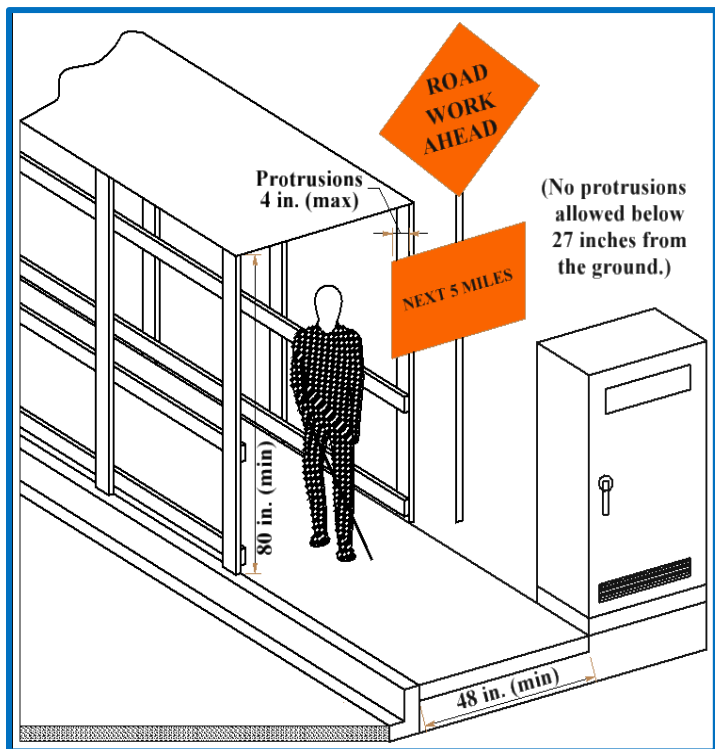

Figure 11 Protruding Objects
- Signs and other devices mounted lower than 7 feet above the temporary pedestrian pathway should not project more than 4 inches into accessible pedestrian facilities. Refer to Part 6, Section 6D.02 of the California MUTCD. (See Figure 11.)